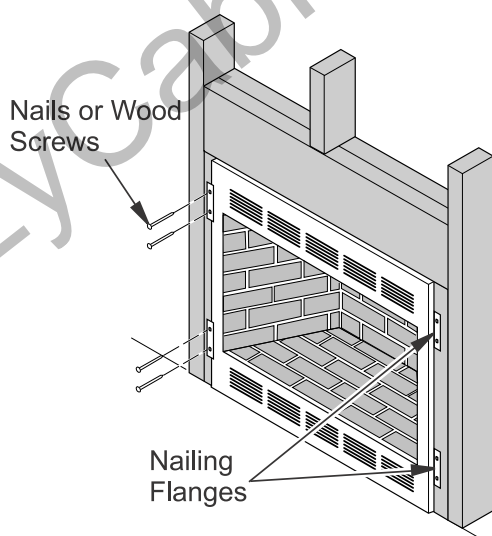

Figure 8 - Attaching Firebox to Wall Studs
5. Attach firebox to wall studs using nails or wood screws through holes in nailing flange (see Figure 8).